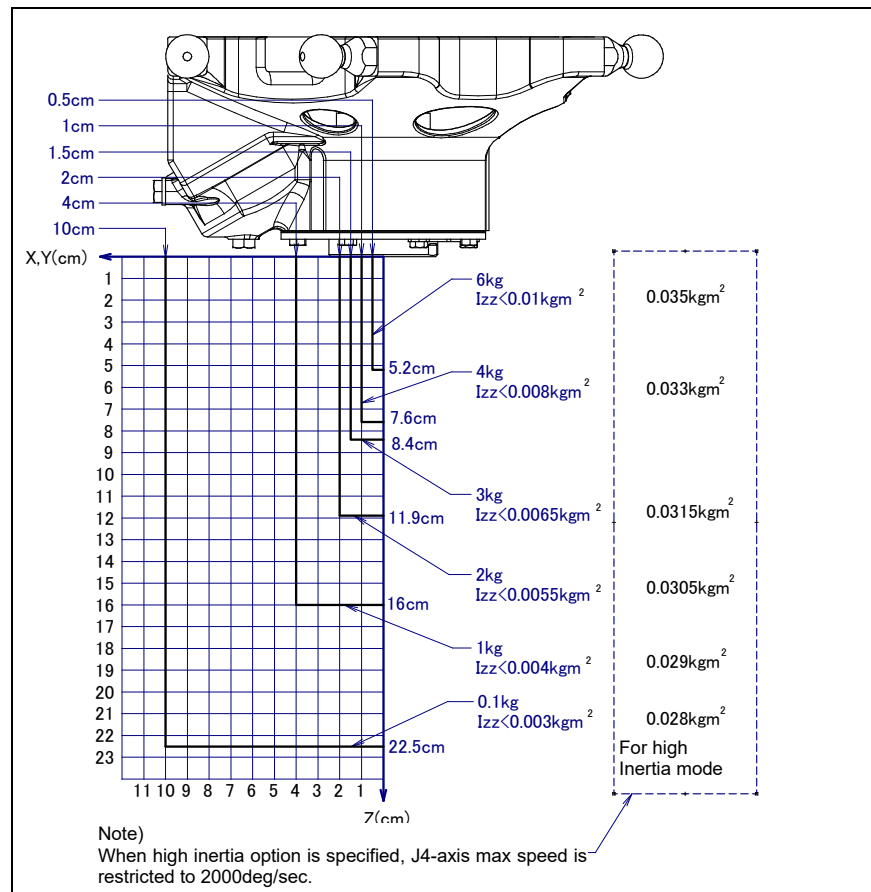

Fig. 3.3 (a) Wrist load diagram (M-3iA/6S: standard inertia mode, high inertia mode)
1. For software version V8.10P/11 or before, refer to Fig. 3.3 (a).